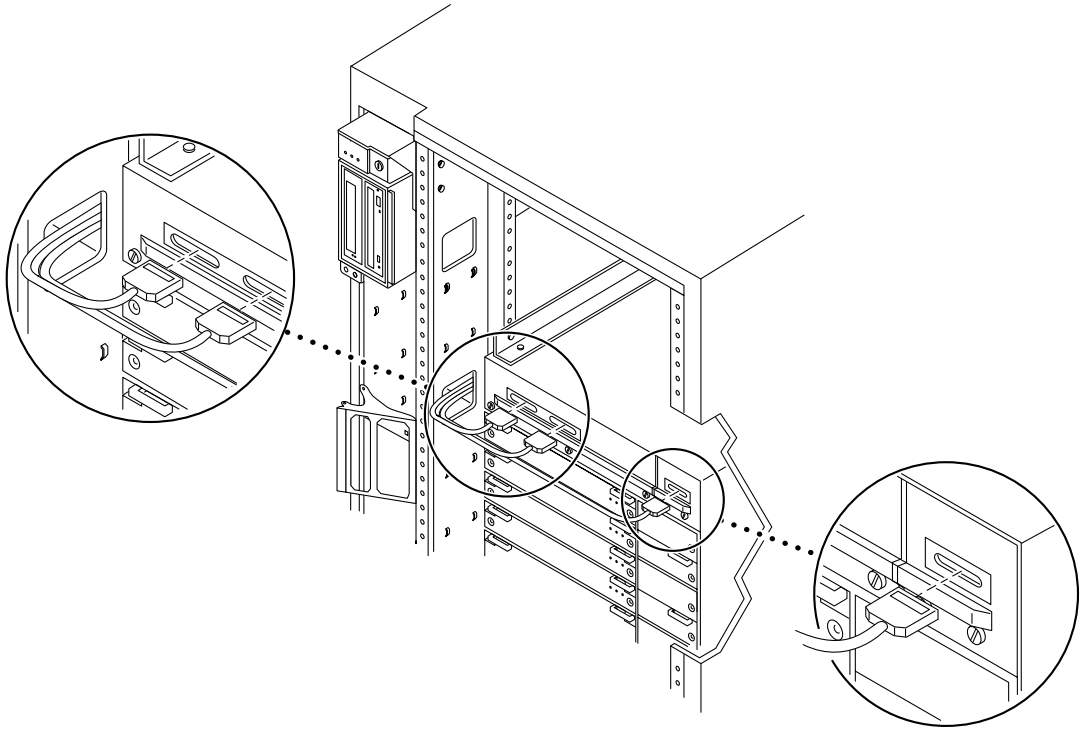

FIGURE E-6 Removing the Cable Assemblies From the Front of the SCSI Adapter Tray
- 9. Disconnect the cable assembly from the front of the SCSI adapter assembly and remove the cable assembly (FIGURE E-6).**
- 3. Connect the cable assembly into the front of the SCSI adapter assembly (FIGURE E-6).**
- 2. Disconnect the two cable assemblies from the front of the SCSI adapter assembly (FIGURE E-6).**
- 3. Connect the two cable assemblies to the front of the SCSI adapter assembly (FIGURE E-6).**